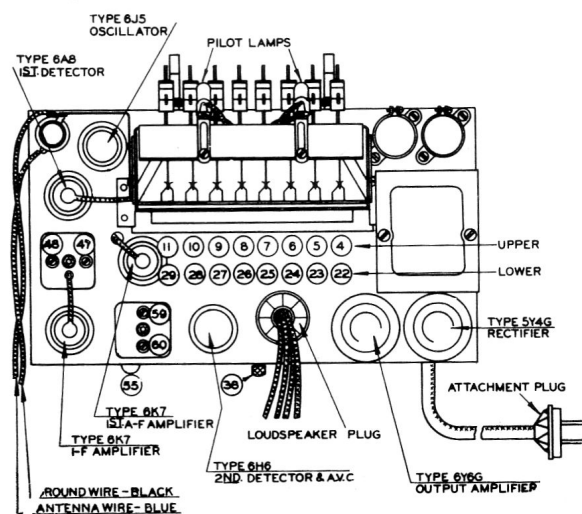

Figure 2.—Chassis Layout Showing Tube Positions
trimmer number 23 with a screwdriver until the desired station is being received. Then press the button number 55 on the back of the chassis (see Fig. 2), retune trimmer 23 and tune trimmer number 5 for maximum sound from the loudspeaker. The effect of pressing button number 55 is to decrease the sensitivity of the receiver, thereby facilitating peaking of the trimmers. Should the signal from the station to which the receiver is being tuned be at all weak, it is possible that pressing button number 55 will eliminate the station entirely. When this is the case, however, no difficulty will be experienced in peaking the trimmers without using this button.
Should it be found that the higher frequency stations are not accurately tuned when the push-buttons nearer the right hand end are pushed, the condition can be easily remedied. Push the button which tunes the highest frequency station for which the set is adjusted. Then adjust, by turning, the small knob (item 38, see fig. 2) on the rear of the chassis until the station is again in tune.